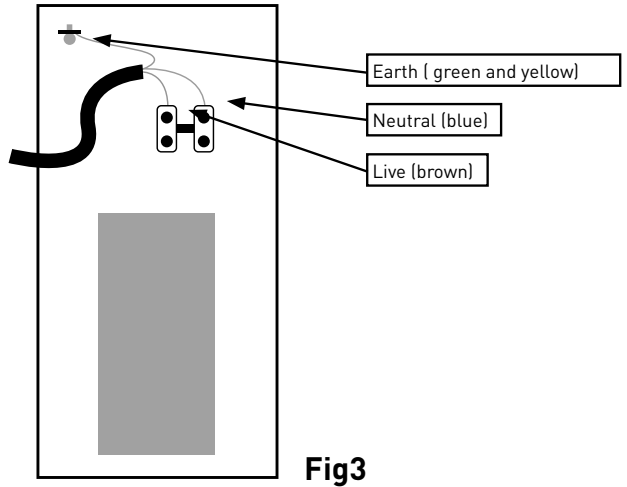

Fig3
- Connect the mains supply ensuring the correct polarity is observed (see Fig 3).